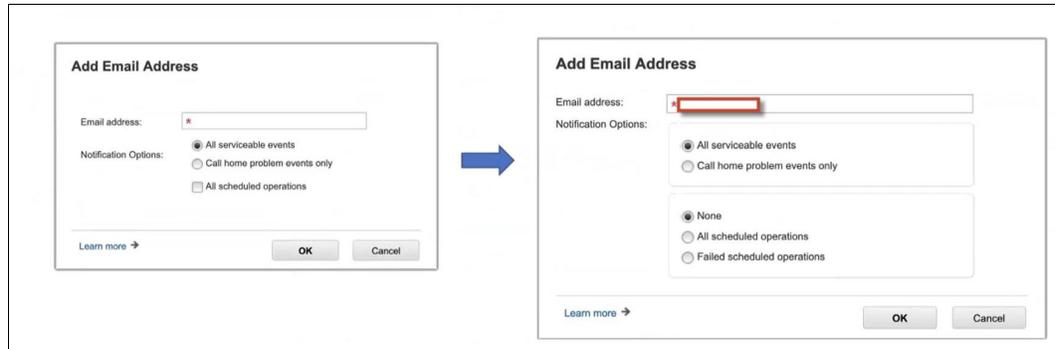

Figure 1-10 HMC alert feature
- ▶ Scheduled operation function: In the Electronic Service Agent, a new feature that allows customers to receive message alerts only if scheduled operations fail (see Figure 1-10).